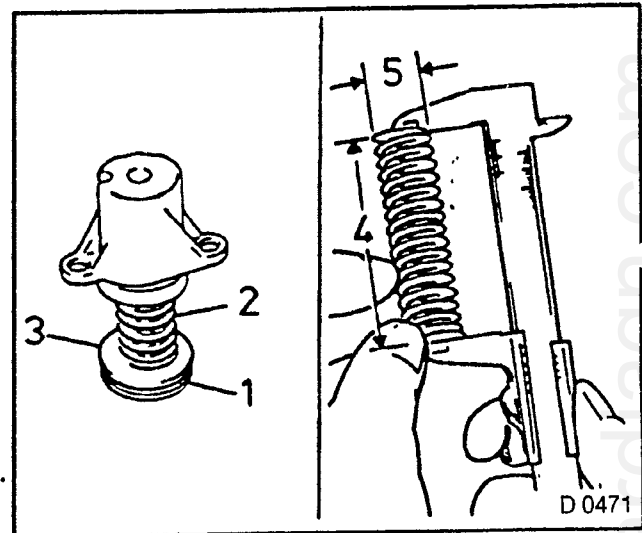

Fig. 422
2. Thrust bearing (1).
3. Three hook seal rings from bearing journal (2) — ring ends are L-shaped. Press in one ring end in groove, hook out the other.
4. Cover for piston C1 (3).
5. Spring and piston C1 (Fig. 422, Item 3) — Renew rubber O-seal rings on piston (Fig. 422, Item 1)